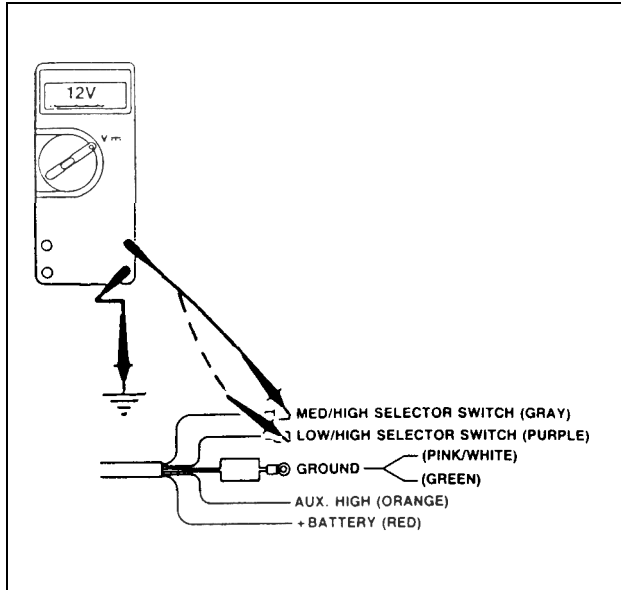

FIG. 1.1.37
**Correction:** With the selector switch in LO position, ignition ON and ON/OFF switch ON, measure voltage output at purple wire (Fig. 1.1.37). Proper reading should be 12.5 +/- 1 VDC. Measure output at gray wire. Output should be 0 VDC. Select HI position on selector. VOM should read 12.5 +/- 1 VDC at each output terminal.